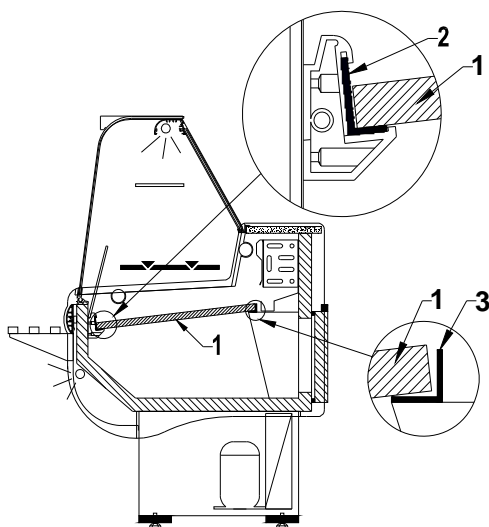

Fig.3 Assembly of display shelves
1. Mount display shelves *Fig.3/ 1 (p.7)*